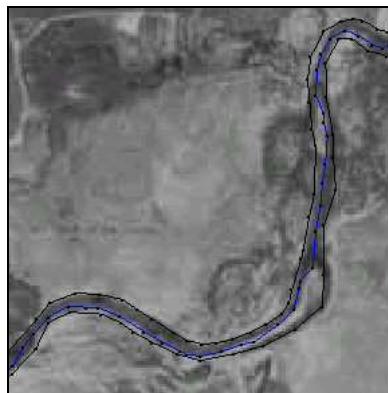

Figure 1 Centerline and bank arcs
1. **Zoom** in close enough around a section of the feature arcs so that users can see three distinct arcs as shown in Figure 1.